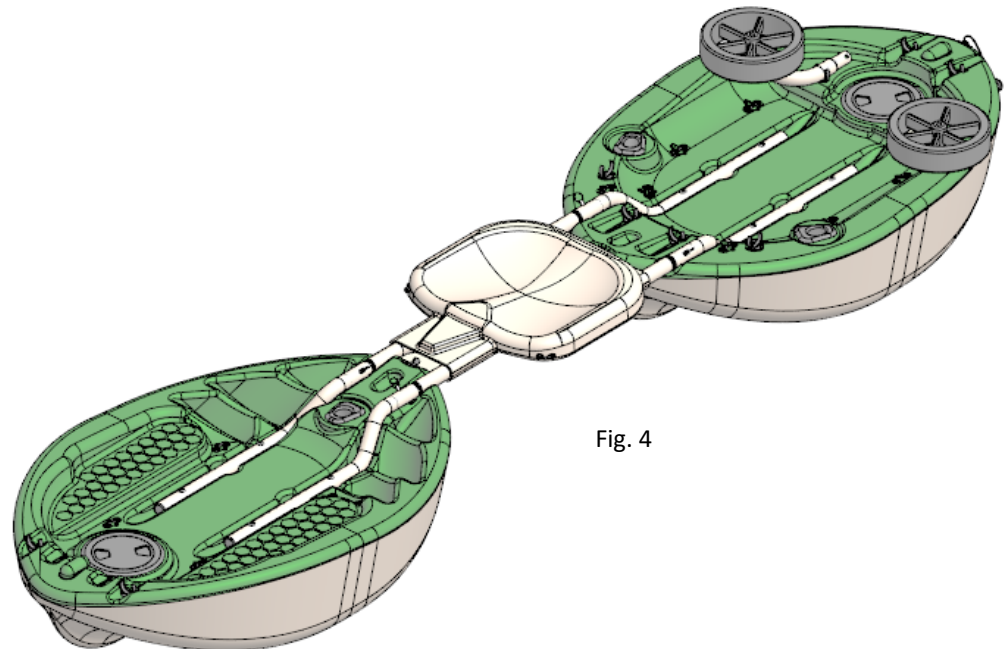

Fig. 4
- 3) With the two quick release pins pulled out of the frames of the **FRONT FLOATS**, assemble the **MIDFRAME** to the **FRONT FLOAT** by inserting the reduced ends of the **MIDFRAME** into the frames of the **FRONT FLOAT** and secure it with the two quick release pins attached to the **FRONT FLOAT**. (fig. 4)